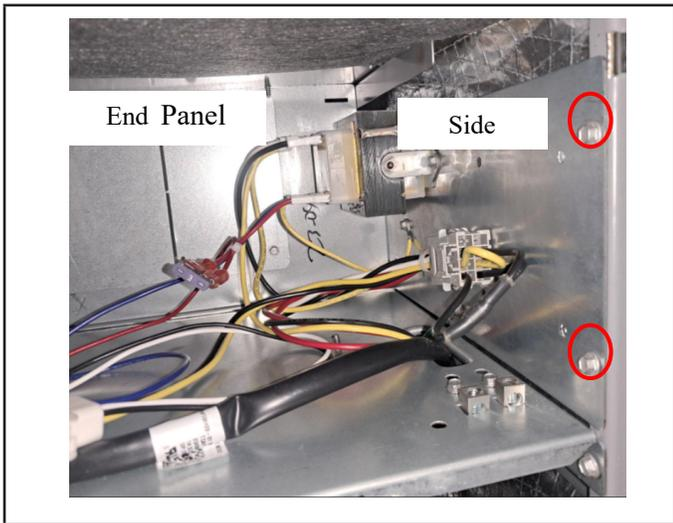

FIGURE 21. Electrical Connections (Upflow Configuration)
To avoid the possibility of moisture damage to the control in some right-hand discharge configurations, the control panel can be relocated to the end panel as shown in FIGURE 21.
- 1 - Remove the two screws that secure the control panel to the cabinet. See FIGURE 21. Slide panel out.